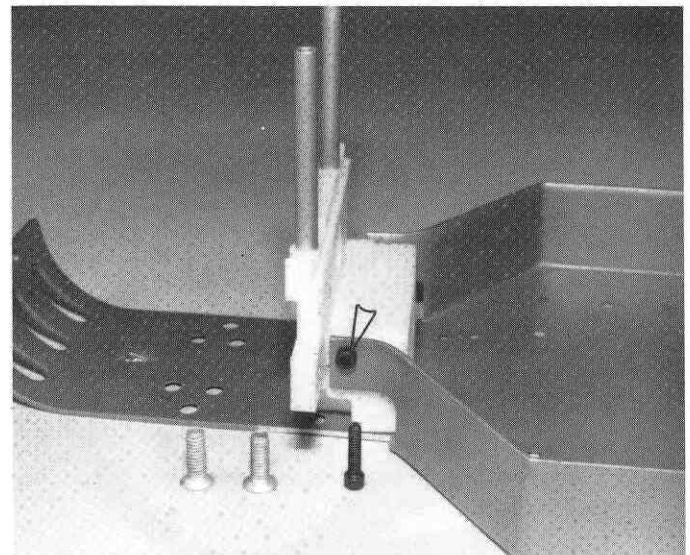

Fig. 100
□ **Fig. 100** Take the 2 Phillips screws and attach the bulkhead to the chassis, but DO NOT tighten the screws all the way down yet, but almost tight. Then install the 2 4/40 Allen screws, as shown, but do not tighten these down yet. We'll be tightening these 4 screws down later.